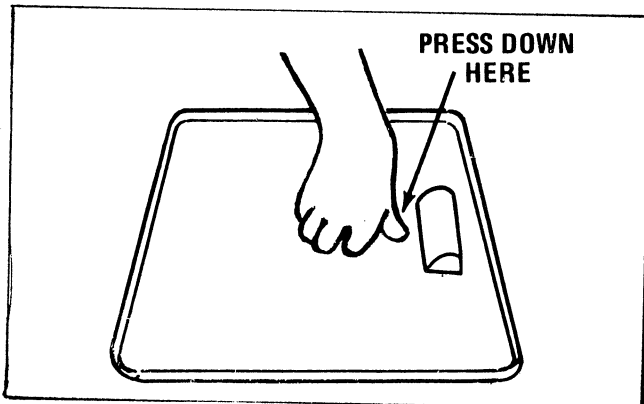

Figure 59-4
2. Resting the door on a protective cloth upside down, press down as illustrated in *Figure 59.4*. Remove handle.